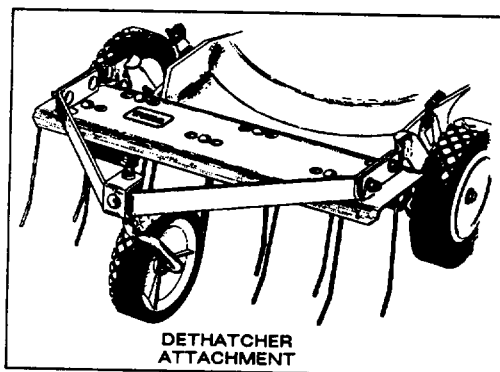

Figure 27
2. CHECK ADJUSTMENT (Fig. 27)—Move control bar toward handle until slack in wire is removed. Gap between brake lever and handle must be 1/8"-3/16". See step 3 for adjustment.
59131—Installs in minutes. Front mounted for easy maneuverability. Spring tines loosen thatch for clean vacuuming into grass bag (Fig. 27).